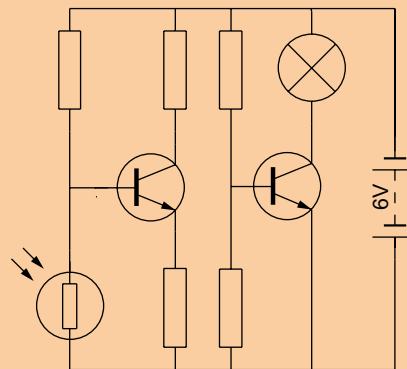

Fig. 9.18 Example using the DesignCenter
## Using the DesignCenter (Fig. 9.18)
6. Complete the circuit drawing as shown in Fig. 9.18.
Fig. 9.18 does not represent an authentic electronics circuit.